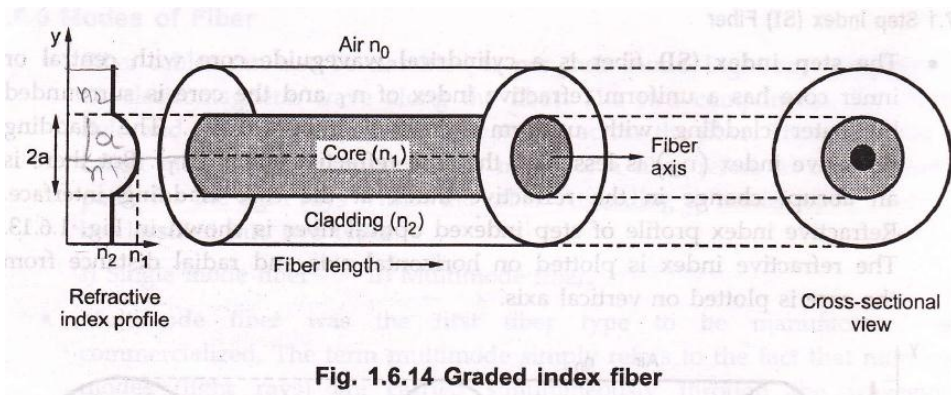

Fig. 1.6.14 Graded index fiber
- In the **graded index (GRIN)** fiber the refractive index is not uniform within the core, it is highest at the center and decreases smoothly and continuously with distance towards the cladding. The refractive index profile across the core takes the parabolic nature. Fig. 1.6.14 shows refractive index profile of graded index fiber.